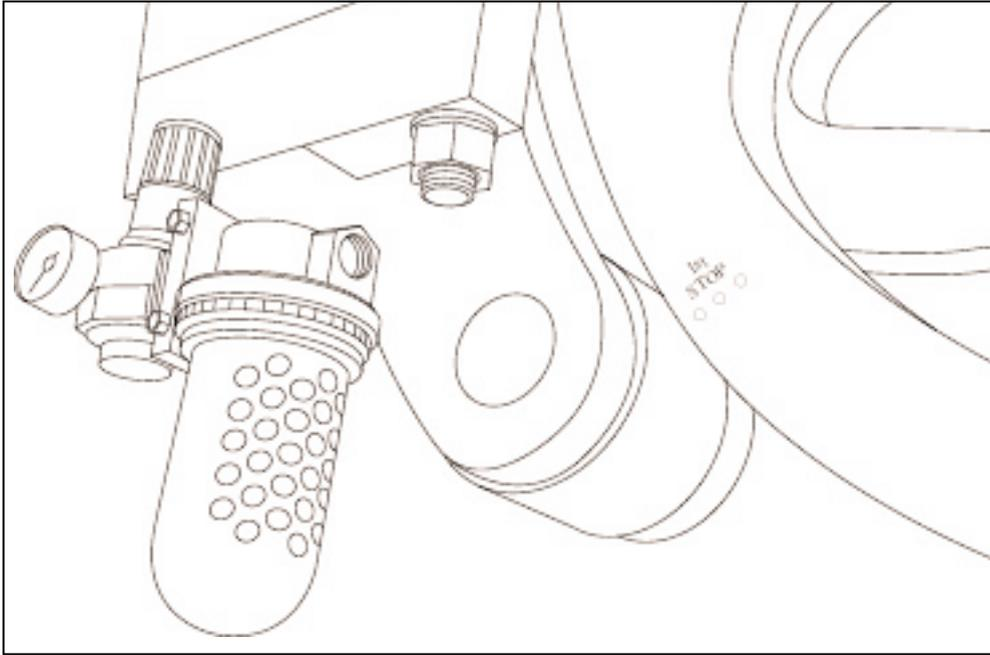
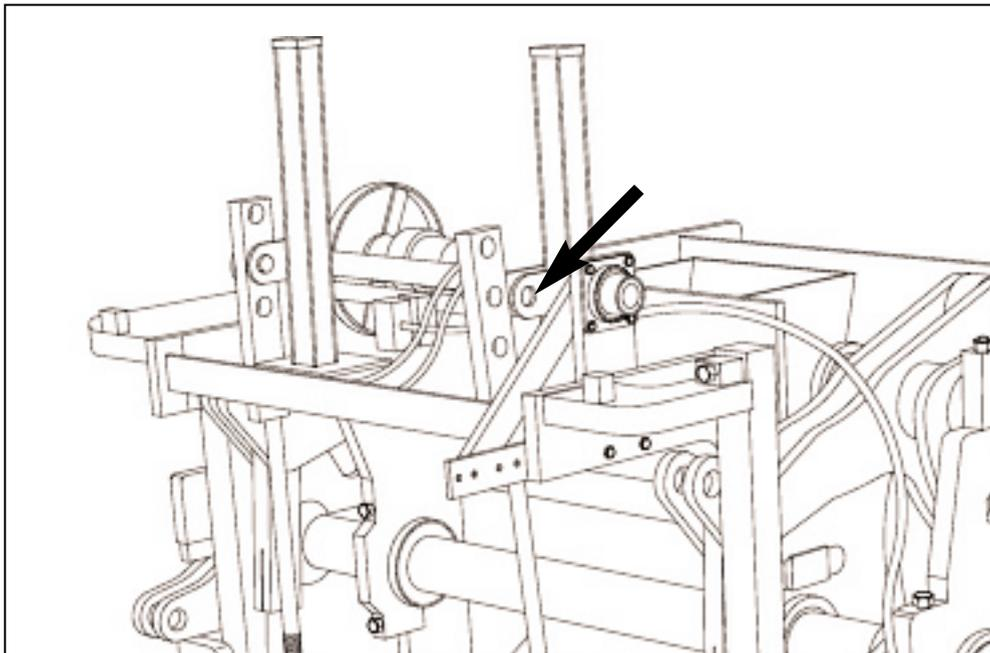

Figure 4.19 "FIRST STOP" (R.H. side of machine).
Figure 4.20 DISCONNECTING THE AUTOFEED LINKAGES.
4.2.2 Run machine to "first stop" (see figure 4.19.) Turn off clutch and drive motor, and manually lower the auto-feed to its lowest position. Disconnect the two auto-feed linkages at the top (see figure 4.20).